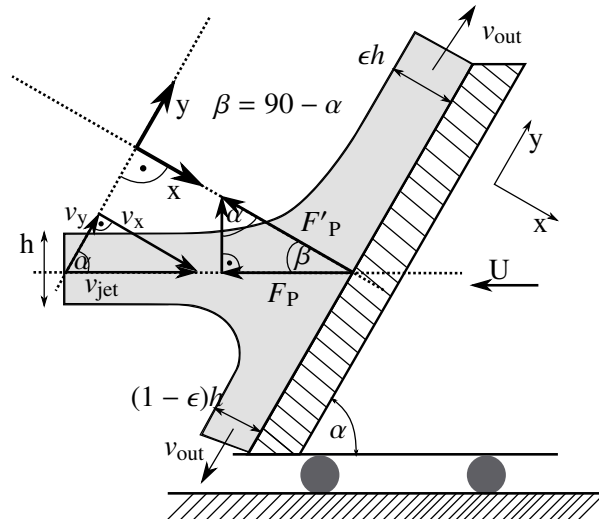

Figure 6.10: A square jet hitting on an inclined plate.
- Coordinate system 2 (CS2): y-axis parallel to the inclined plate and upward, x-axis orthogonal to y-axis and moving with velocity  $U$  as shown in figure 6.10.
Thus, from figure 6.10, we infer  $F_P = F'_P \sin \alpha \Leftrightarrow F'_P = \frac{F_P}{\sin \alpha}$ . As before, in the control volume that is moving with the plate, the incoming jet velocity is  $v_{\text{in}} = v_{\text{jet}} + U$ . Now we may write up the x-component of the moment equation in CS2. Note that there is no outflow in the x-direction when using CS2.